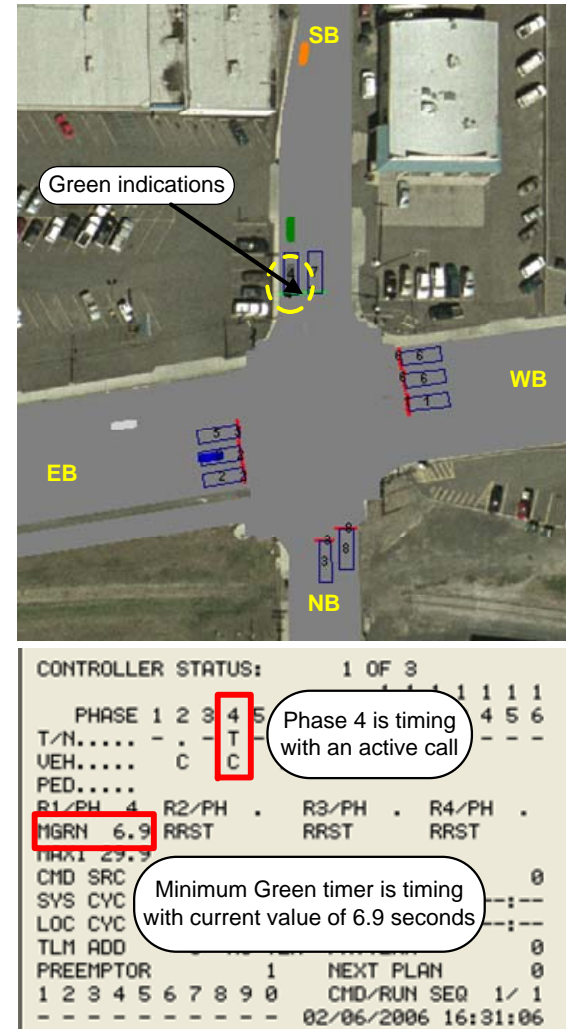

Figure 21 Intersection and controller status at simulation time = 66.8 seconds
- Note that phase 4 starts at the simulation time of 66.8 seconds. Figure 21 shows the intersection view for this simulation time as well as the controller status at this time.
- The top of Figure 21 shows the VISSIM window and the green indication for phase 4.